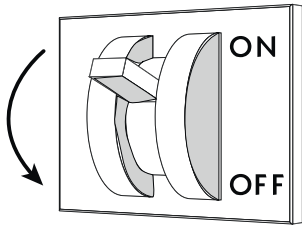

Fig. 53
- Disconnect the power supply to the cabinet using the wall-mounted main switch-disconnector ("Fig. 53").